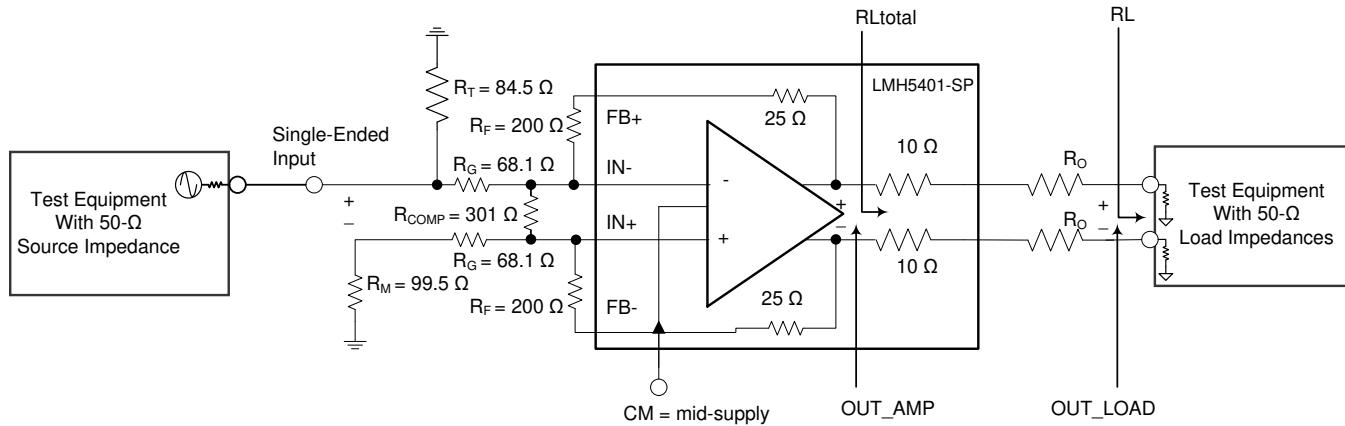
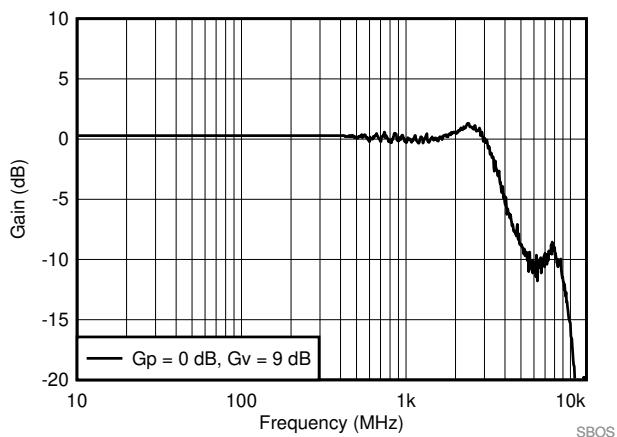

图 61. Noise Gain Compensation for Stability at $G_p = 0$ dB
図 62. SE-DE Small Signal Frequency Response for Low Gain
Two types of gain are associated with amplifiers: noise gain (NG) and signal gain. Noise gain determines the stability of an amplifier. The noise gain is the inverse of the voltage divider from the outputs back to the differential inputs. This gain is calculated by $NG = (R_F / R_{IN}) + 1$. For the LMH5401-SP, $NG > 4$ creates a stable circuit independent on how the signal gain is set. In 图 61, for optimal performance choose R_F within the values noted in this document (see the Parameter Measurement Information section for further information). Using too large of a resistance in the feedback path adds noise and can possibly have a negative affect on bandwidth, depending on the parasitic capacitance of the board; too low of a resistance can load the output, thus affecting distortion performance. When low signal gain stability is needed, the noise gain can be altered with the addition of a resistor, R_{comp} . By manipulating the noise gain with this addition, the amplifier can be stabilized at lower signal gains. In 图 61, R_S and R_{comp} in parallel combination also affects the noise gain of the amplifier. R_G and R_F are the main gain-setting resistors and the addition of R_{comp} adjusts the noise gain for stability. Much of this stability can be simulated using the LMH5401-SP TINA model, depending on the amplifier configuration. The example in 图 61 uses the LMH5401-SP, a signal gain of 2.8 V/V, and a noise gain of 4.75 V/V resulting in the frequency response shown in 图 62.